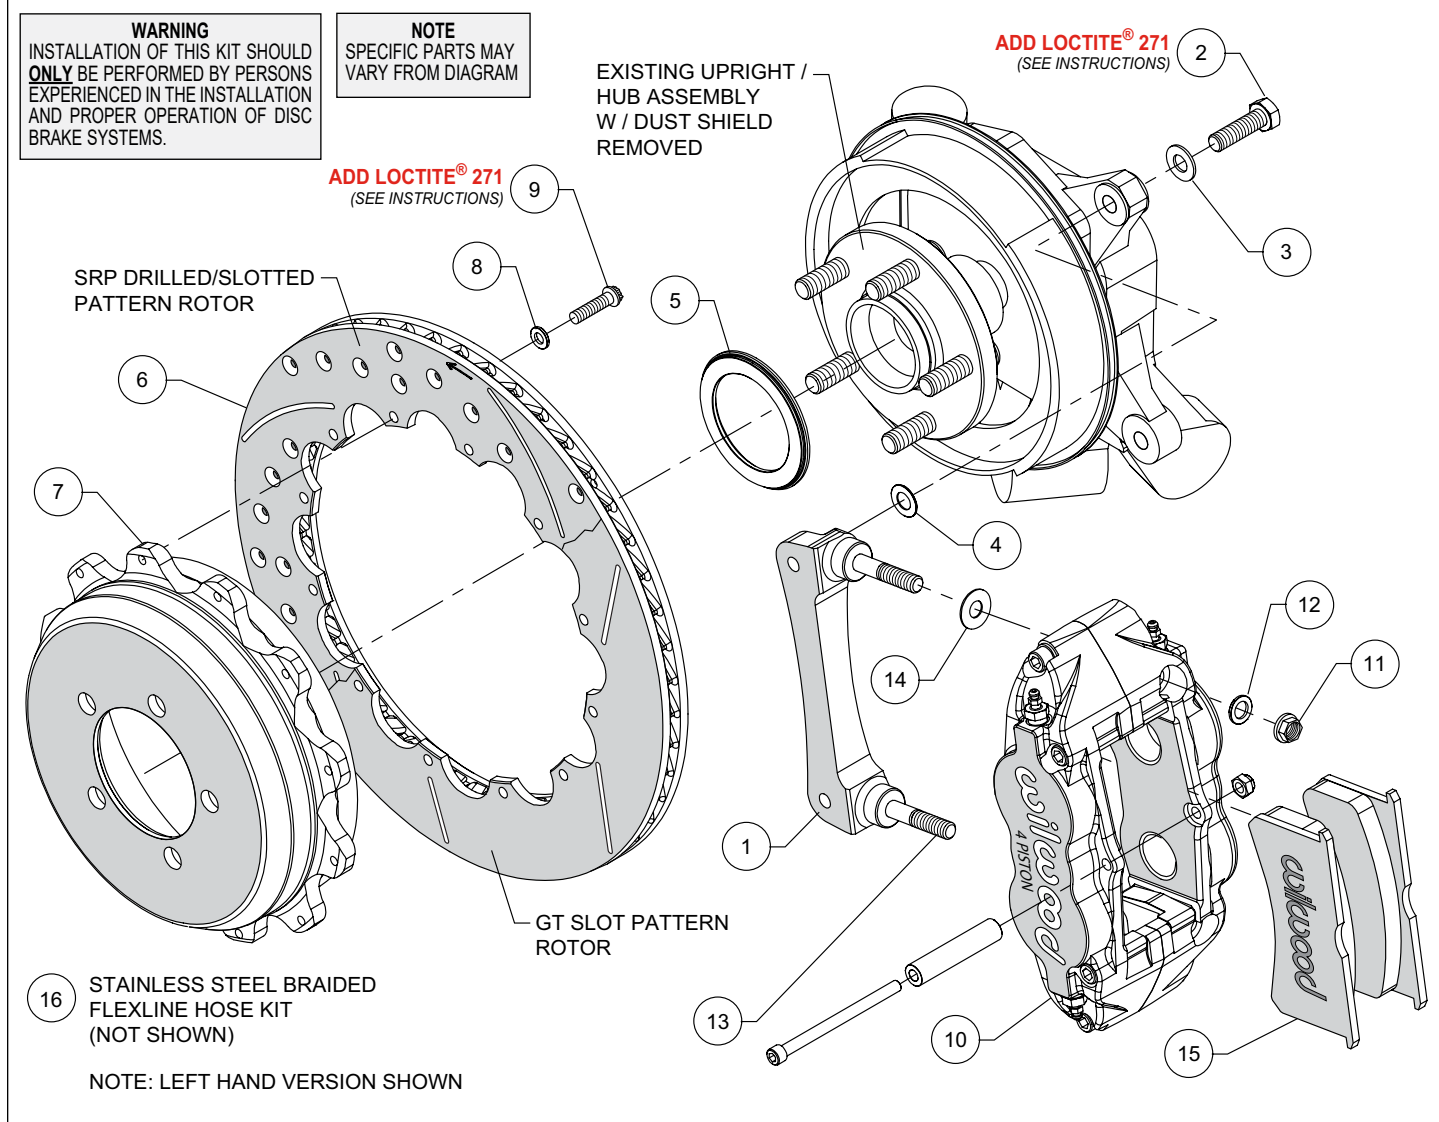
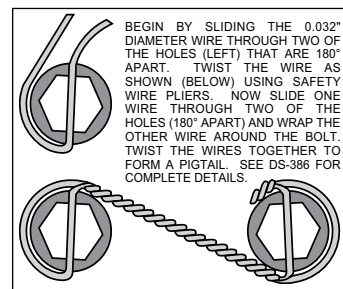

Figure 1. Typical Installation Configuration
Figure 3. Safety Wire Diagram
Assembly Instructions (numbers in parenthesis refer to the parts list and Figure 1 on the preceding pages):
- The caliper mount bracket (1) should initially be installed with clean, dry threads on the mounting bolts. Orient the bracket as shown in Figure 1 and Photo 2, and install using washers (3) and bolts (2). Initially place one shim (4) on each bolt between the bracket and upright, Figure 1. Temporarily tighten the mounting bolts. **NOTE: The bracket must fit squarely against the mount bosses on the upright.** Inspect for interference from casting irregularities, machining ridges, burrs, etc. Later, after the caliper alignment has been checked, the mount bolts will be secured using red *Loctite*® 271.
- Orient the rotor (6) and the hat (7) as shown in Figure 1 and Photo 3. Attach rotor to hat using bolts (9) and washers (8). Apply red *Loctite*® 271 to the bolt threads and torque to 140 in-lb using a criss-cross pattern. For an added measure of security, the bolts may be safety wired using standard 0.032 inch diameter stainless steel safety wire as shown in Figure 3. Please refer to Wilwood's data sheet DS-386 (available at www.wilwood.com/Pdf/DataSheets/ds386.pdf) for complete safety wire installation instructions.
- Initially place one .035" thick shim (14) on each stud (13) as shown in Figure 1 and Photo 5. Mount the caliper (10) onto the bracket (1) using lock nuts (11) and washers (12), Figure 1. Temporarily tighten the lock nuts and view the rotor through the top opening of the caliper. The rotor should be centered in the caliper, Photo 6. If not, adjust by adding or subtracting shims (4) between the bracket and the upright. Once the caliper alignment is correct, remove the bracket mounting bolts one at a time, apply red *Loctite*® 271 to the threads, and torque to 40 ft-lb.